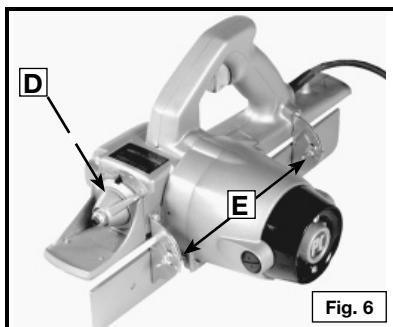

Fig. 6
Adjust your depth of cut by moving the depth adjustment lever (D) Fig. 6. Each mark on the gauge represents $1/64"$. To plane $1/32"$ from a board or door, move the lever to the number "1" position. Make a $1/64"$ cut by setting the lever halfway between "0" and "1". Make a $3/64$ " cut by setting the lever halfway between "1" and "2". The plane has one other operating adjustment - the angle of the apron to the plane shoe. This adjustment consists of two graduated hinges held by wing nuts (E) Fig. 6. Both hinges should be on the same angle markings before the nuts are tightened.